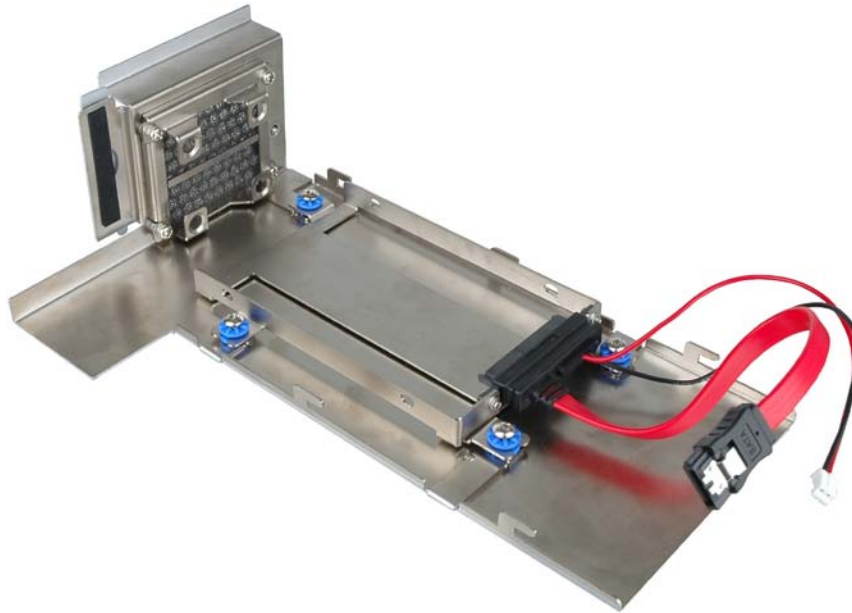

Figure 3-5: Remove the Cover from TANK-820
Step 2: Unplug the SATA signal and power cables connected to the TANK-820, and then put the cover on a flat surface (**Figure 3-5**).
Step 2: Unplug the SATA signal and power cables connected to the TANK-820, and then place the cover on a flat surface (**Figure 3-5**).